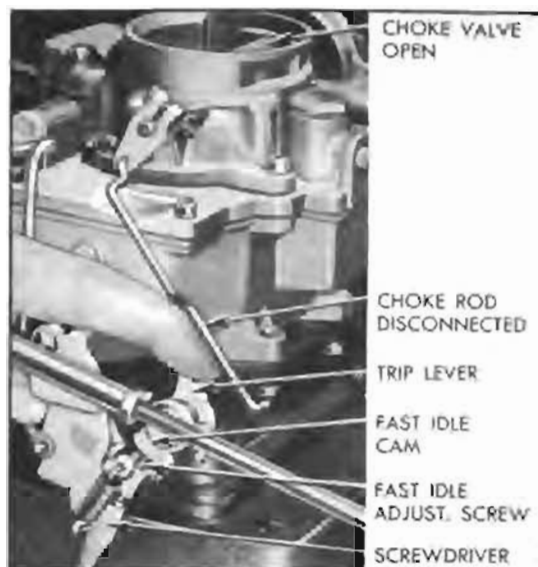

Figure 3-30—Setting Carter Fast Idle—Carburetor on Engine
6. If carburetor is installed, warm engine up to normal operating temperature and correct a tachometer to register engine speed. Disconnect fast idle connector rod from cam trip lever so that cam may be held in "cold" position while engine is running with choke valve fully open. See figure 3-30.
ment screw to obtain engine speed of 1200 RPM. See figure 3-30.